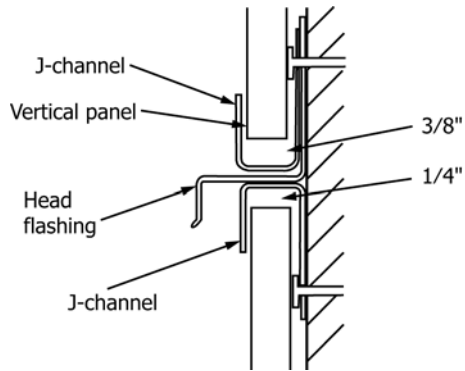

FIG. 25 Joining Area-Multicourse Installation
10.11 If it will take more than one course to span the height of the house, terminate the first course into an inverted J-channel, leaving a ¼ in. (6.4 mm) clearance. Install a head flashing on top of the J-channel. Then install an upward-facing J-channel on top of the head flashing. Install the second course of vertical panels, leaving a ⅜ in. (9.5 mm) clearance to the bottom J-channel. (See Fig. 25.)